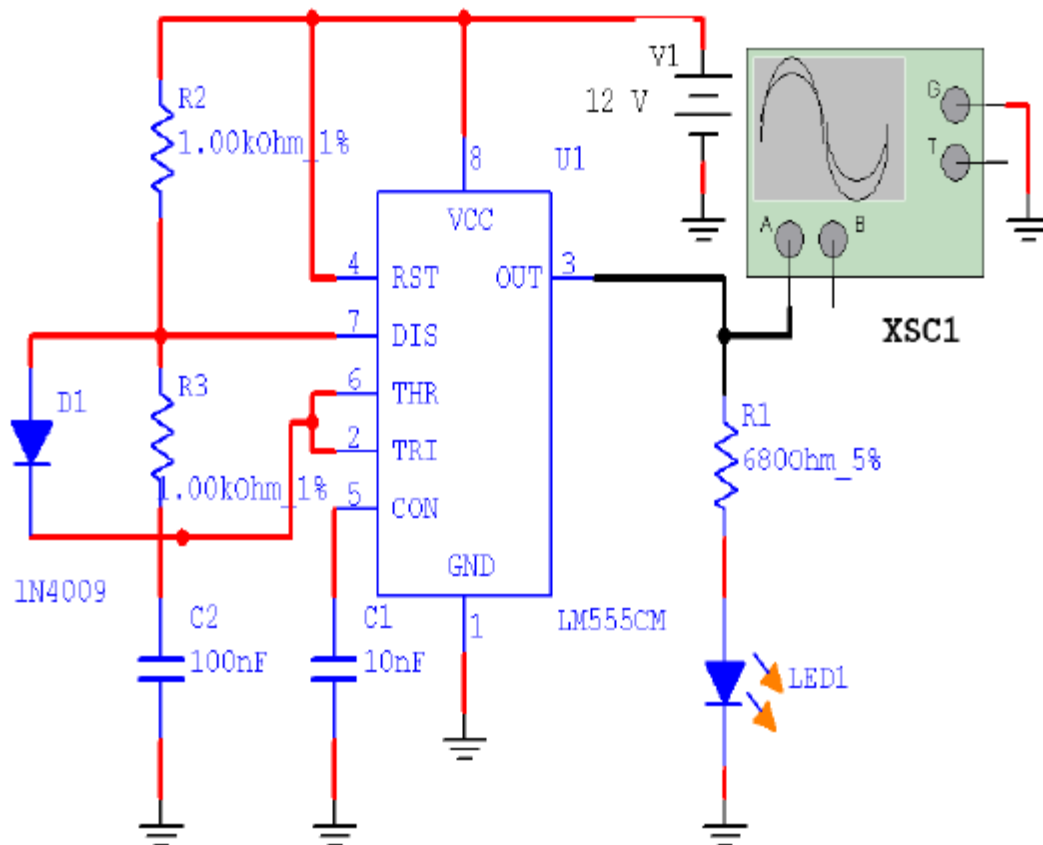

Fig.9 Symmetric Astable 555 Circuit
- Connect the circuit shown in Fig.9.